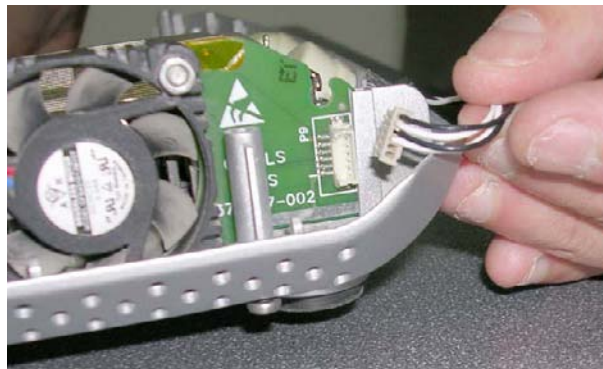

Figure 8-40 Disconnecting the Speaker Cable
- 3.) Disconnect the speaker cable from the fan assembly, as shown in Figure 8-40 below
- 4.) Reconnect the speaker cable to the fan assembly, as shown in Figure 8-40.